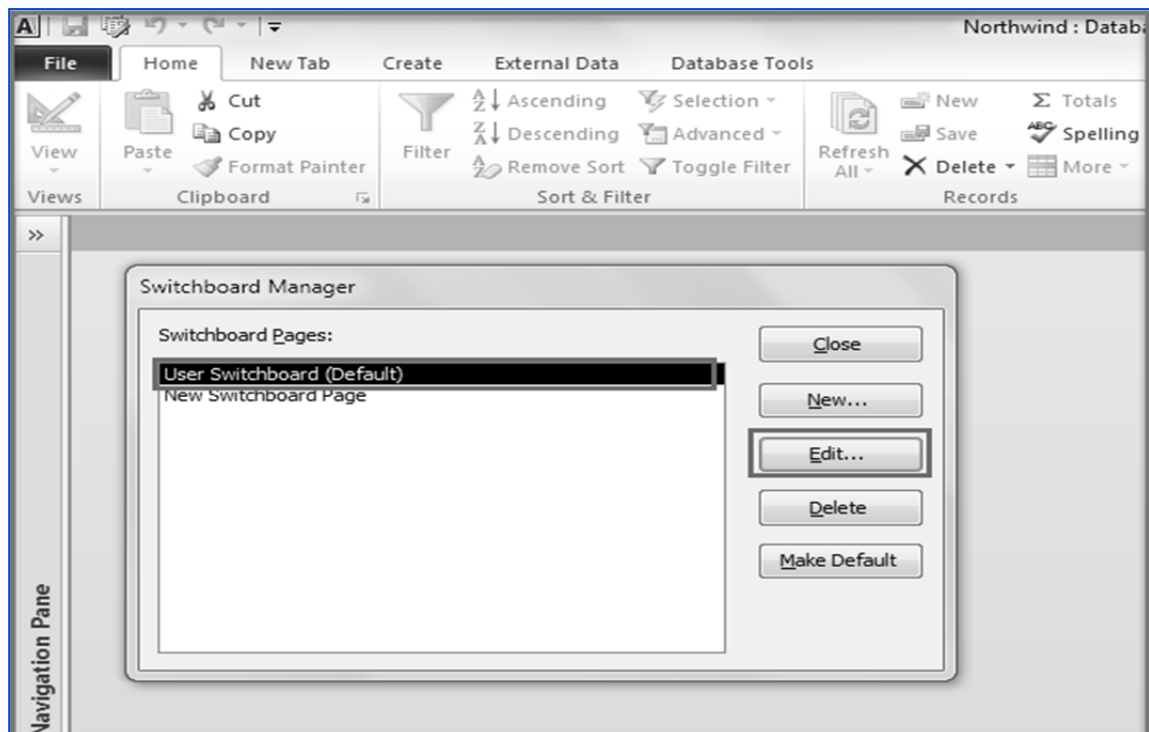

Fig. 4.3.23: Edit the Switchboard User Switchboard
5. The *Switchboard Manager* Dialog box appears. Select *User Switchboard* and click *Edit* to edit the switchboard, as shown in Fig. 4.3.23.